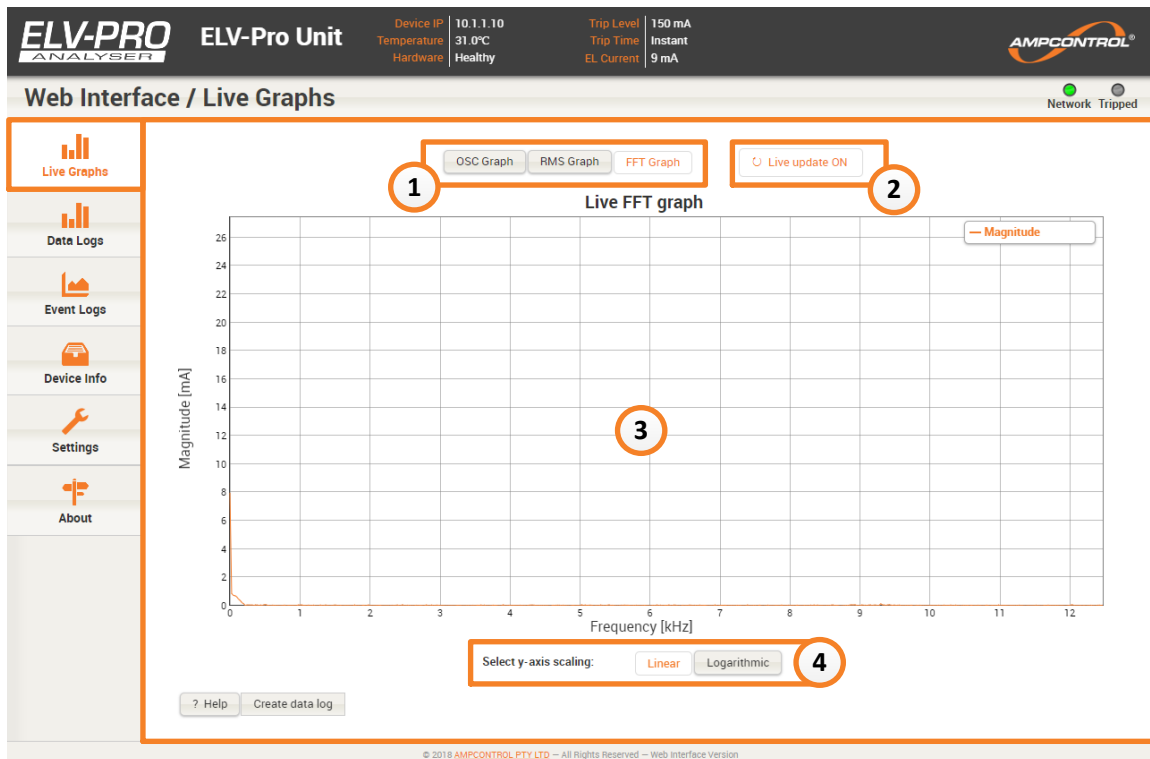

Figure 6-5: ELV-PRO Web Interface - Live Graphs (FFT)
- FFT graph: This plot shows the frequency content of the past 80ms worth of instantaneous measurements. Figure 6-5.